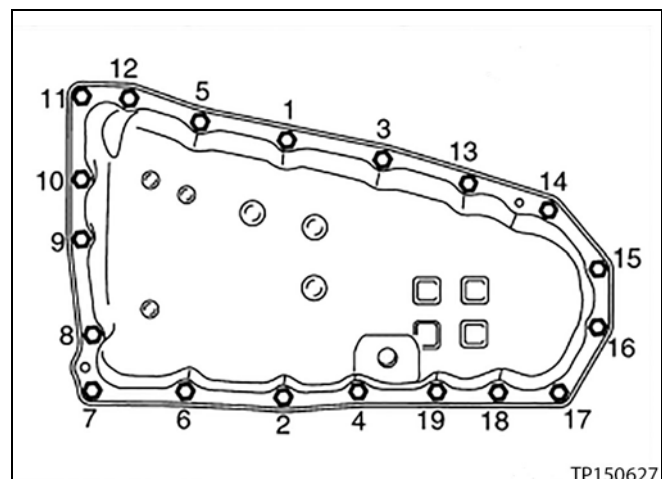

Figure 29
12. Install the oil pan bolts (see Figure 29).